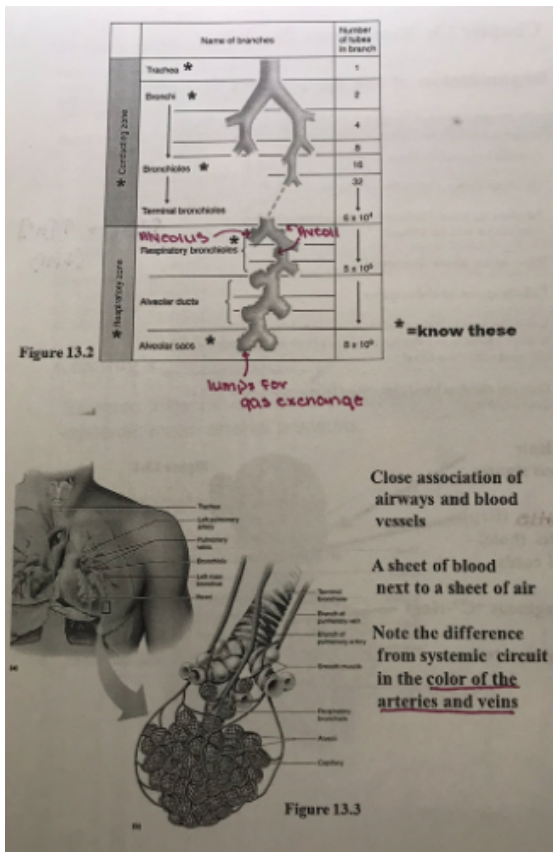

Figure 3: Aveoli Anatomy and lung hierarchy
- The upper part of figure 3 shows the hierarchy of the parts of the lung from largest to smallest diameters